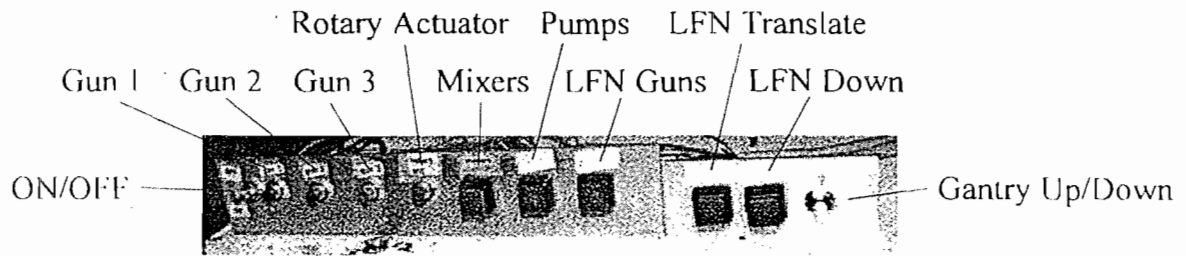

Figure 2.9.4: Manual Control Panel
2.9.3 Place the manual control switch in the 'ON' position and toggle the 'PUMPS' switch to the 'ON' position (Figure 2.9.4). If desired at this time, the paint mixers can be activated to keep the paint mixed. To activate the mixers, depress the 'MIXERS' switch. (Figure 2.9.4)
2.10.5 Depress the 'GUN 1' switch to open the first black paint gun. With the 'GUN 1' switch depressed, toggle the 'PUMPS' switch to the 'ON' position to activate the paint pump. (Figure 2.9.4) Allow pump to run, until paint runs freely from the gun outlet.
2.10.6 Toggle the 'PUMPS' switch to the 'OFF' position to deactivate the pump. Release the 'GUN 1' switch. (Figure 2.9.4)
2.10.7 Depress the 'GUN 3' switch. With the 'GUN 3' switch depressed, toggle the 'PUMPS' switch to the 'ON' position. (Figure 2.9.4) Allow
2.10.8 Toggle the 'PUMPS' switch to the 'OFF' position to deactivate the pump. Release the 'GUN 3' switch. (Figure 2.9.4)
2.10.12 Depress the 'GUN 2' switch to open the first white paint gun. With the 'GUN 2' switch depressed, toggle the 'PUMPS' switch to the 'ON' position to activate the paint pump. (Figure 2.9.4) Allow pump to run, until paint runs freely from the gun outlet.
2.10.13 Toggle the 'PUMPS' switch to the 'OFF' position to deactivate the pump. Release the 'GUN 2' switch (Figure 2.9.4)
2.10.17 Depress the 'Pre. Guns' button on the manual control panel (Figure 2.9.4)
2.10.18 Toggle the 'PUMPS' button to the 'ON' position. (Figure 2.9.4)
2.11.9 Position the Gantry by actuating the 'UP/DOWN' switch on the manual control panel (Figure 2.9.4) so that the gantry gun tips are approximately 12 inches above the Simulated Road Material.